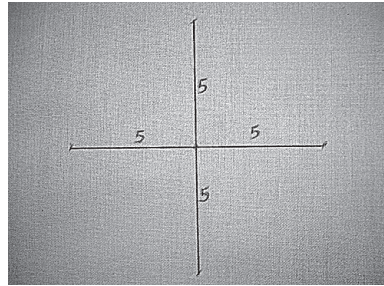

Fig. 2
1. With a help of provided tape measure mark on your fabric (Fig. 2, 3).